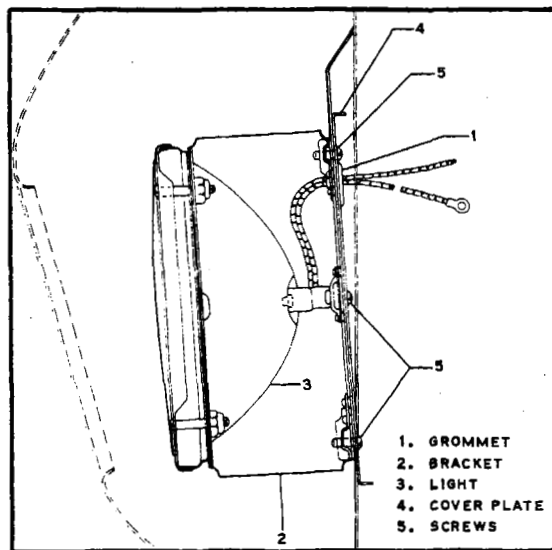

Figure 11-67. Landing Light Inst.
- b. Remove six screws that secure the cover plate and light assembly. (Refer to Figure 11-67.) To prevent the light assembly from dropping, it may be held by reaching through the nose opening.